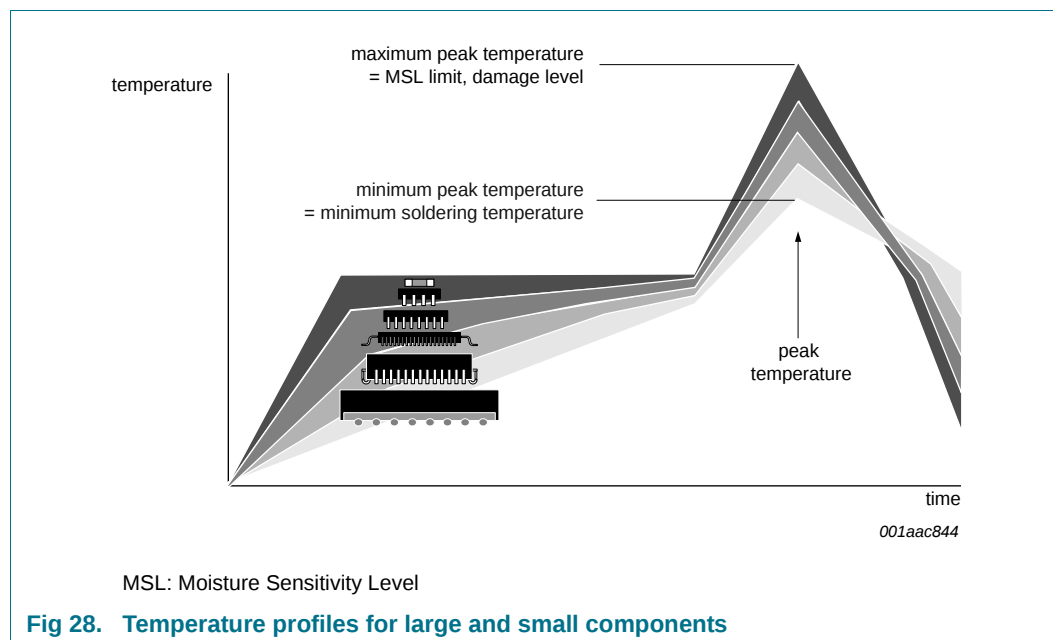

Fig 28. Temperature profiles for large and small components
- Lead-free versus SnPb soldering; note that a lead-free reflow process usually leads to higher minimum peak temperatures (see Figure 28) than a SnPb process, thus reducing the process window
Studies have shown that small packages reach higher temperatures during reflow soldering, see Figure 28.